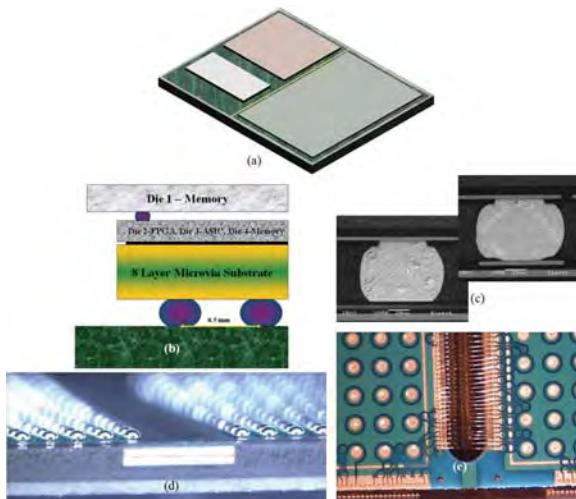

Figure 2. High Speed Digital Module with Die to Die Integration "C 2 Processors and ASIC to Memory
**Figure 2** shows a highly integrated, chip-size, four-die module based on D2D integration and wafer-level redistribution technology with a maximum package thickness of 0.8mm. **Figure 2b** shows the package stack-up and **Figure 2a** shows the 4 die module without the high density multilayer substrate. Die 1 is a large memory device that serves as the base die for 3D integration. It is redistributed to incorporate a multilayer, polymer dielectric/Cu interconnect structure to receive Die 2, 3, and 4 in a flip chip configuration. A high-density, microvia substrate is precision bonded to the top sides of Die 2, 3 and 4. Au wire ball bonding is then used to interconnect the high-density substrate to the redistribution pads of Die 1 (**Figure 2e**).